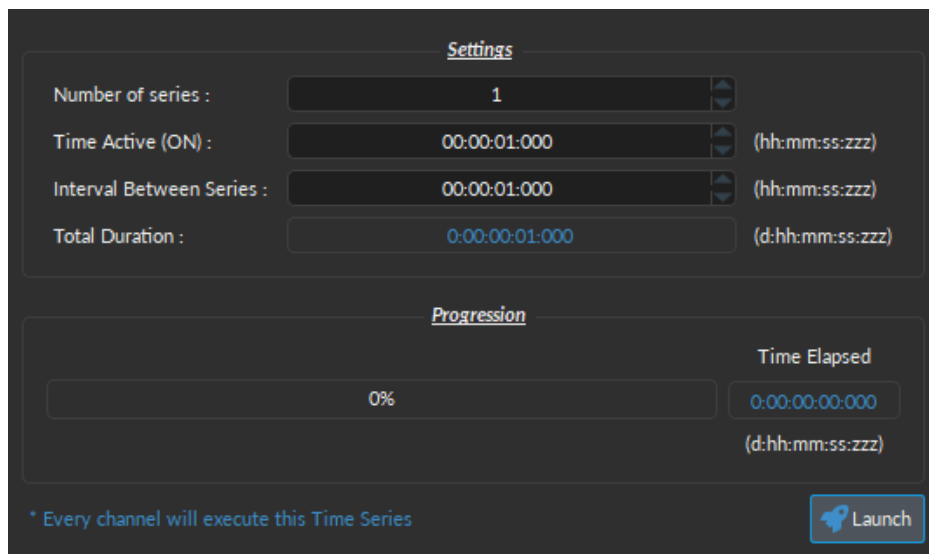

Figure 3.12: Time Series Window
2. The **Time Series** button opens the Time Series window (Fig. 3.12). This tool allows all channels to share the same timing.